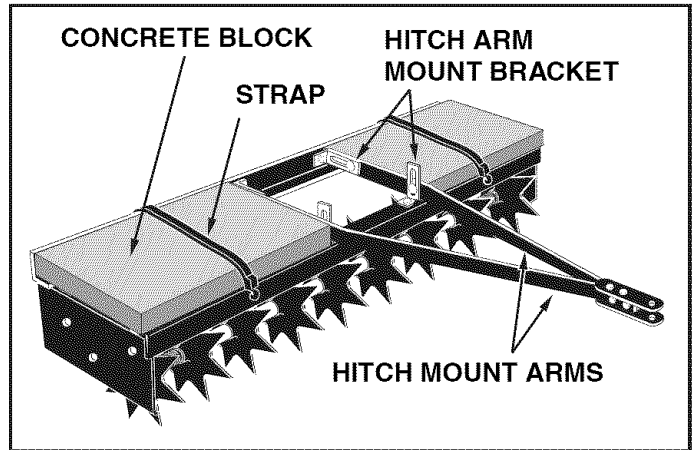

FIGURE 9
- To increase spike point depth penetration add weight as required. The aerator frame holds up to three concrete blocks at approximately 35 pounds each. Weights can be secured to frame with straps or other binding material. See figure 9.
- Attach the aerator to the tractor hitch and check to see that the aerator is level. Adjust by loosening the bolts which fasten the hitch mount arms to the hitch arm mount brackets. Raise or lower the position of the arms until the aerator is level. See figure 9.